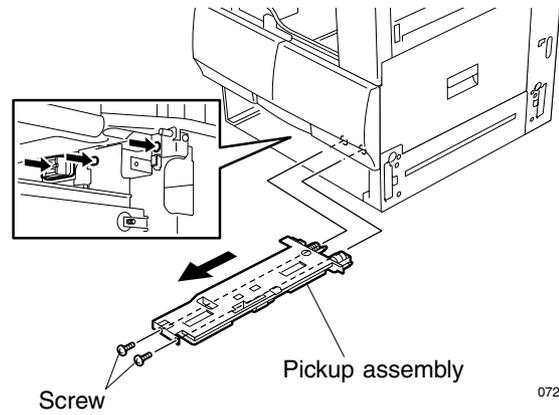

Fig. 9-7-4
5. Remove pickup assembly. (See Fig. 9-7-4)